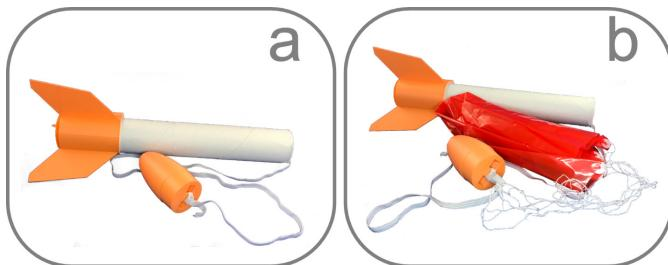

Figure 9.31 – Installing the nose cone and parachute
1. Thread the shock cord through the channel at the bottom of the nose cone and tie a knot (*Figure 9.31 a*).
2. Thread the nose cone through the shrouds of the parachute and tie a knot (*Figure 9.31 b*):